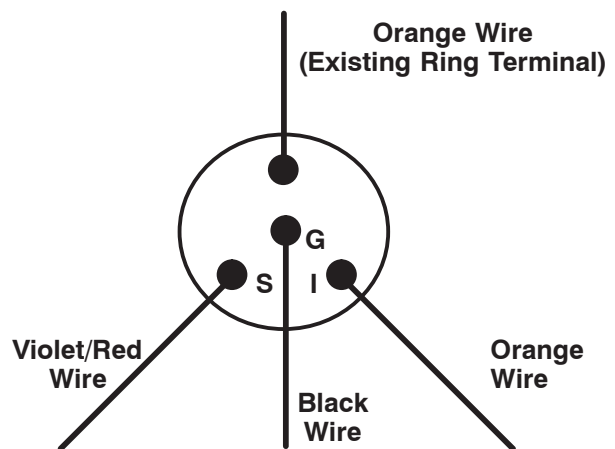

Figure 7
9. Connect the appropriate colored wires from the wire harness to the appropriate terminals on the back of the tachometer with hex nuts as shown in figure 7.